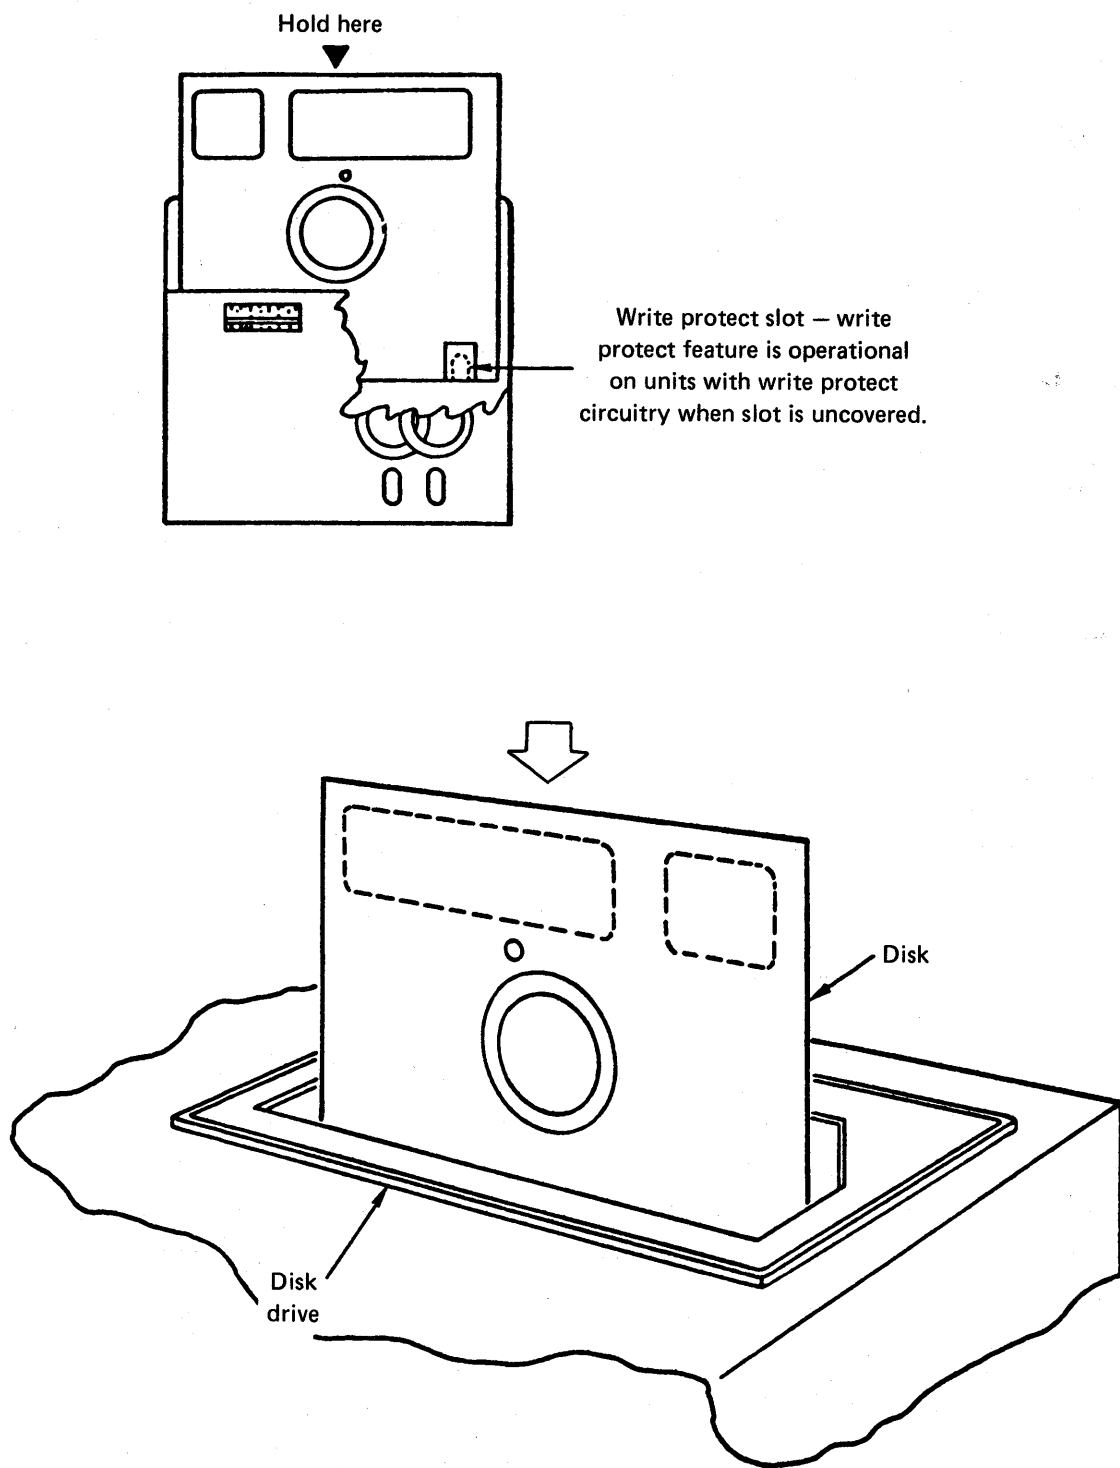

Figure 61. Disk installation
- _____ c. Remove disk from storage envelope as shown in figure 61.
- _____ d. If disk is to be write protected (on units with Write Protect circuitry), be sure Write Protect slot is uncovered, as shown in figure 61.